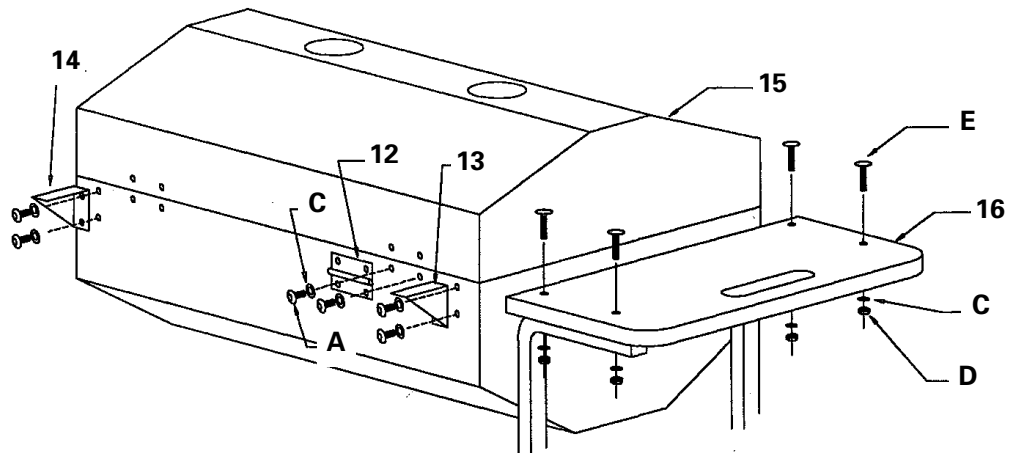

Figure 4
4. Refer to Figure 4. Select the following parts for assembly:
5. Refer to figure 4. Select the two shelves (part 16), and using four carriage screws "E", lockwashers "C" and hex nuts "D", attach the shelves to the outer ends of the legs.